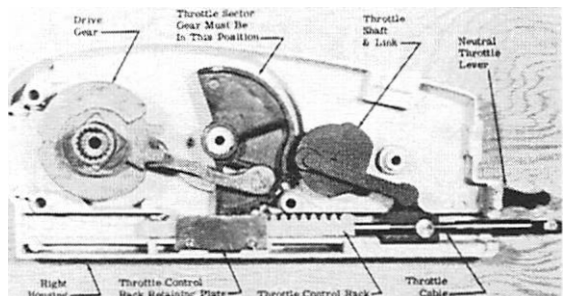

Figure 2. Throttle Sector, C-29564-S Cables
2. Rotate throttle sector gear 90° to position (Figure 2) for assembly of control halves.